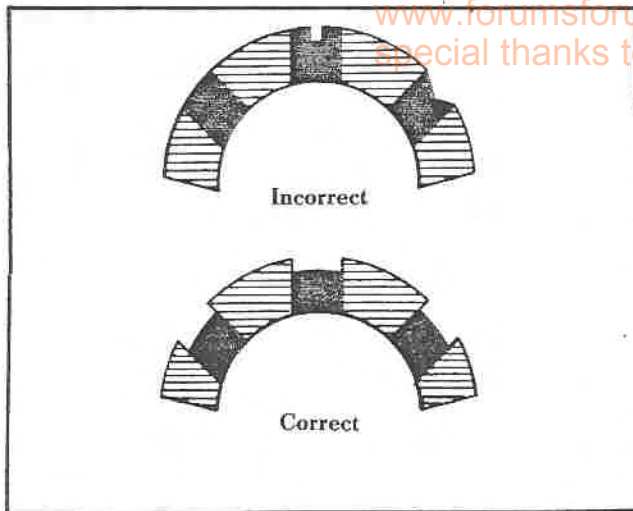

Fig. 7
5. After turning commutator, undercut insulation between commutator segments to a depth of approximately 1/32". The undercut must be flat at the bottom (triangular groove cuts are unsatisfactory) and should extend beyond the brush contact area for the full length of each insulated groove (Figure 7).